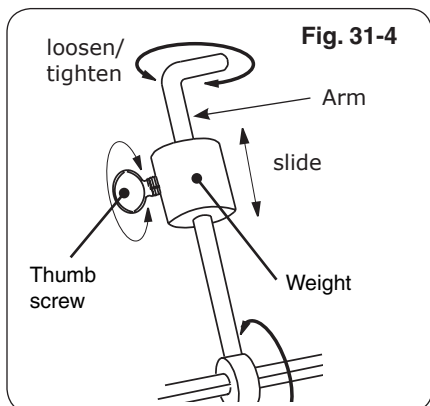

Fig. 31-4
7. Slide the counterbalance weight up or down the arm until the rod rotates most evenly then tighten thumb screw (Fig. 31-4 and Fig. 31-5).